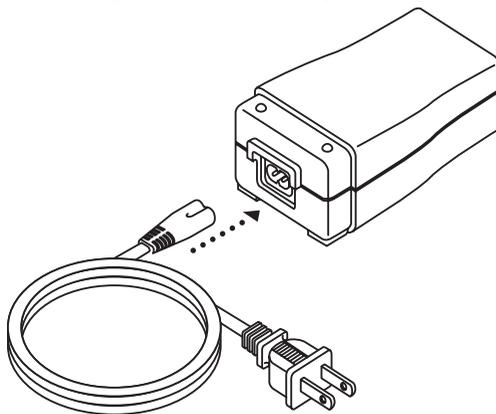

FIGURE 3–4 CONNECTING THE POWER CORD TO THE POWER SUPPLY
1. Plug the socket end of the AC power cord into the power supply, as shown in Figure 3–4.